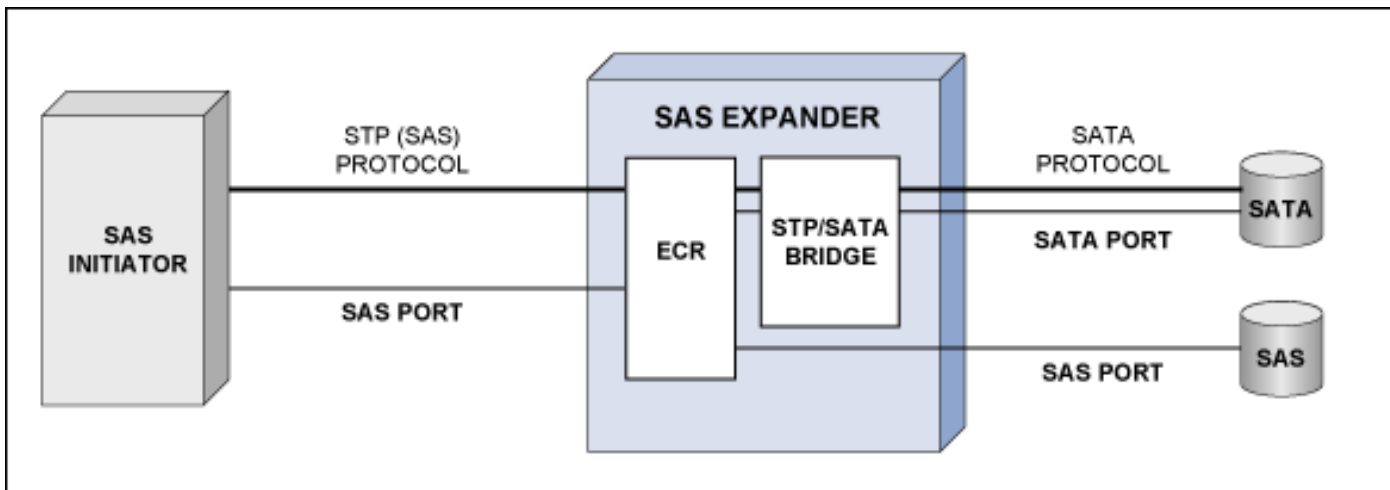

Figure 2. The STP/SATA bridge supports connections between STP-capable initiators and SATA drives.
**Figure 2** illustrates the STP/SATA bridge concept. Unlike SAS drives, SATA drives do not recognize multiple-host or multiple-initiator concurrent access. During a session, one STP initiator maintains an affiliation with the SATA target. During this affiliation, any other STP initiator attempting to gain access to the same SATA device receives an OPEN\_REJECT (STP RESOURCES BUSY) and is forced to retry the connection attempt. This simple affiliation mechanism maintains coherence by allowing commands from only one host to be active on the drive at any given time.